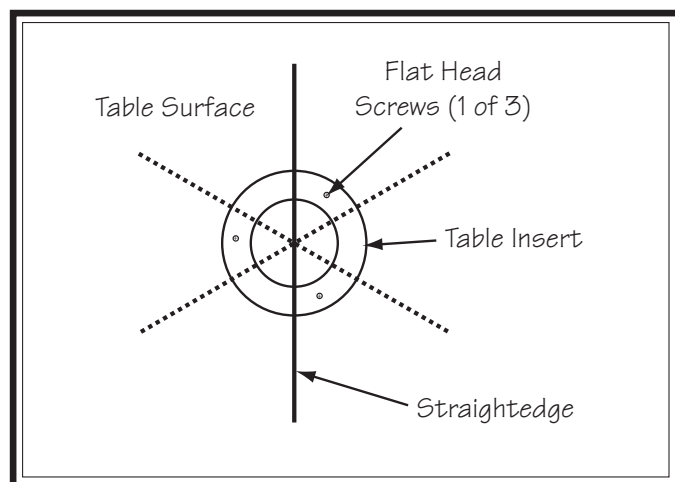

Figure 17. Straightedge and surface pattern.
2. Lay straightedge across outer insert and table surface in pattern shown in **Figure 17**.